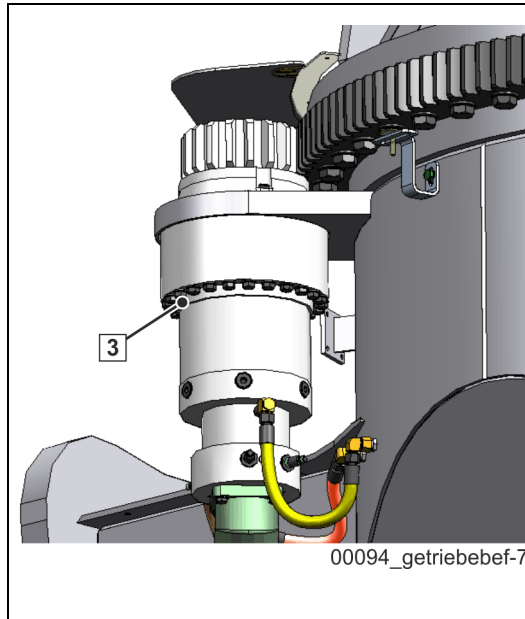

Fig. 319 Example: Gear fixing
Regularly check to make sure the screws (3) (**Fig. 319**) are tight at the intervals specified in the maintenance schedule.